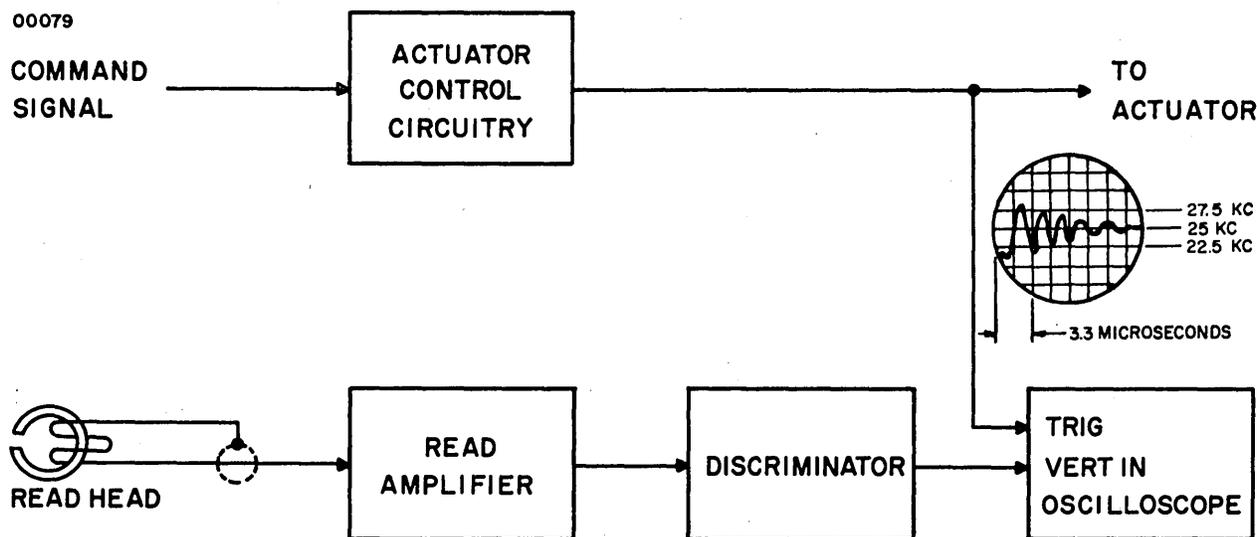

Figure 5-1. Test Setup, Start Time Measurement
Step 2: Connect test equipment as shown in Figure 5-1.
Step 3: Cycle transport to operate in Forward and Reverse Drive modes at a convenient rate. Instantaneous speed variation must fall below 10% within 3.3 msec from start command. A typical wave-shape is shown in Figure 5-1.